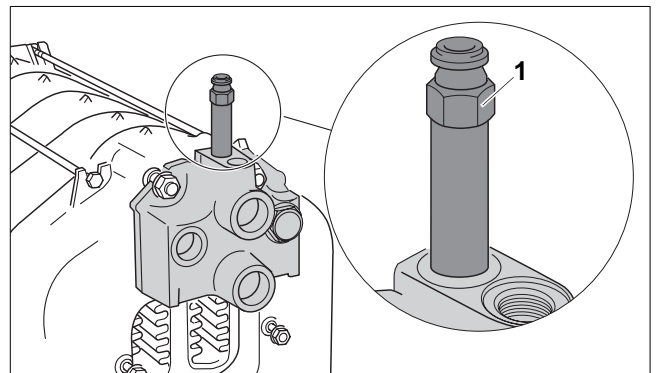

Fig. 22 Sealing the sensor well
- Close front and back connections (fit vent to the Rp ¾ connection block (→ Fig. 22)).